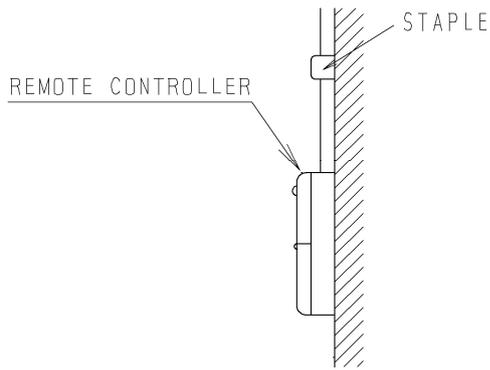
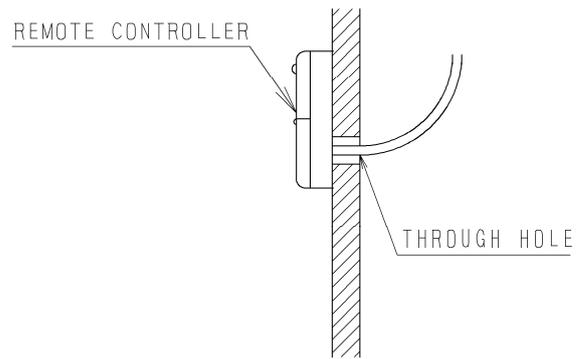

Fig.3.6.2
Fig.3.6.3
4. If the control wire between the wired remote controller and the indoor unit is surface-mounted, use 1# metallic pipe and make matching recess in the wall (refer to Figure 3.6.2); If concealed installation is adopted, 1# metallic pipe can be used (Refer to Figure 3.6.3).